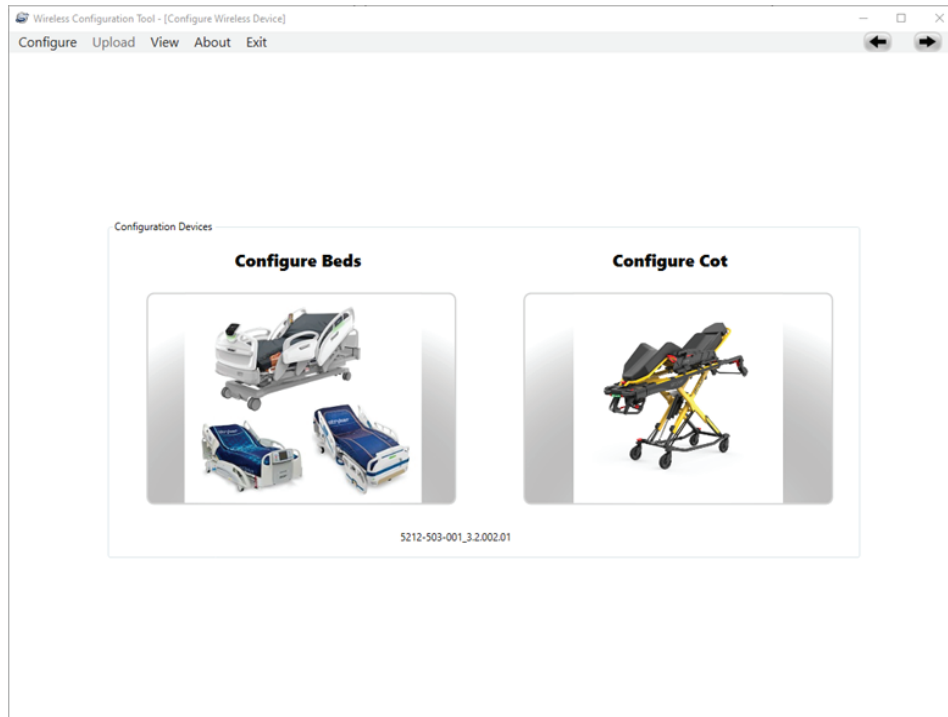

Figure 106 –
3. Open the Stryker Wireless Configuration Tool (Figure 106).